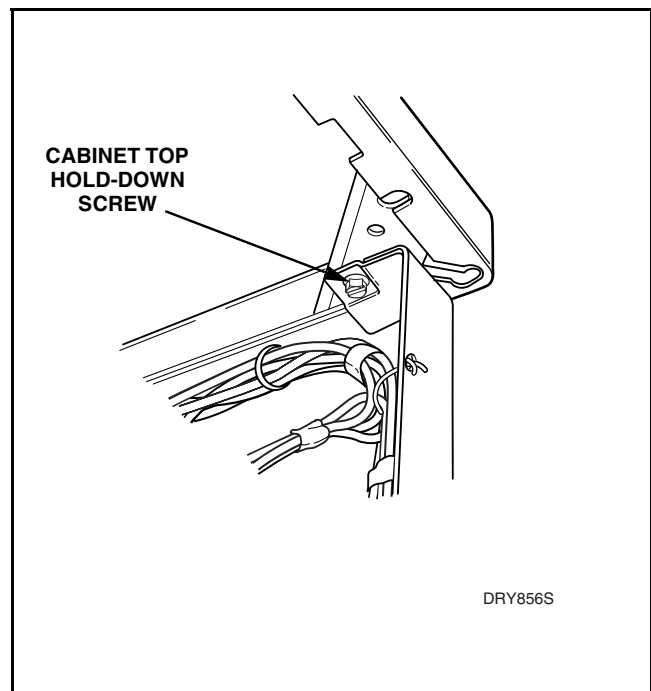

Figure 14
- Remove two cabinet top hold-down screws. Refer to *Figure 14*.
- Remove two cabinet top hold-down screws. Refer to Figure 14.
- l. Remove two cabinet top hold-down screws. Refer to *Figure 14*.
- m. Remove two cabinet top hold-down screws. Refer to *Figure 14*.